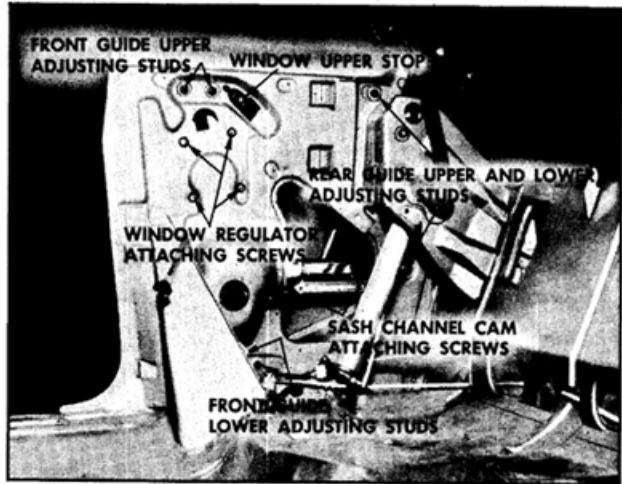

Fig. 16-366 Rear Quarter Hardware (67 Styles)
2. Loosen rear guide adjusting stud nuts. (Fig. 16-366)
3. Operate window to full down position and remove lower sash channel cam attaching screws. (Fig. 16-366)
2. With window in full-up position, remove rear guide upper and lower adjusting stud nuts. (Fig. 16-366)
2. Remove front guide upper and lower adjusting stud nuts. (Fig. 16-366)
2. Lower window to full down position and remove sash channel cam attaching screws. (Fig. 16-366) Disengage cam from roller on regulator lift arm and remove sash channel cam.
3. Remove window regulator attaching screws (Fig. 16-366) and remove regulator through access hole.
4. Remove regulator attaching screws (Fig. 16-366) and remove regulator through access hole.
2. To adjust window fore or aft, loosen front and rear guide adjusting stud nuts. (Fig. 16-366) Position window and guides fore or aft as required; then tighten adjusting stud nuts.
3. To adjust window in or out at belt line, loosen front and rear guide upper adjusting stud nuts. (Fig. 16-366) Adjust studs in or out as required; then tighten adjusting stud nuts.
4. To adjust top of window in or out, loosen front and rear guide lower adjusting stud nuts. (Fig. 16-366) Adjust studs in or out as required; then tighten stud nuts.
5. To relieve a fore and aft binding condition between front and rear guides, loosen front and rear guide adjusting stud nuts. (Fig. 16-366) Operate window to full up position and tighten front and rear guide upper stud nuts. Operate window to full down and tighten remaining stud nuts.
6. To limit forward and upward travel of window, adjust regulator lift arm stop as required. (Fig. 16-366)